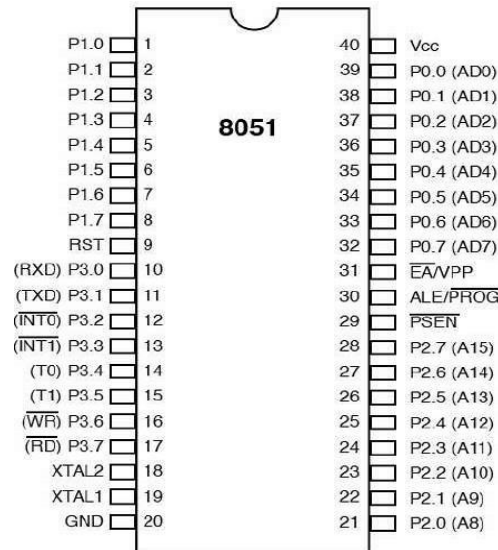

Figure 03: Pin diagram of 8051
The Architecture of 8051 can be understood from the block diagram. The block diagram of 8051 microcontroller is shown in fig .03. It consists of 8-bit ALU, A and B register, one 8-bit Program status word (PSW), one 16-bit Program counter (PC), one 16-bit Data pointer register (DPTR), 128-bytes of RAM and 5KB of ROM, four parallel I/O ports each 8-bit width.